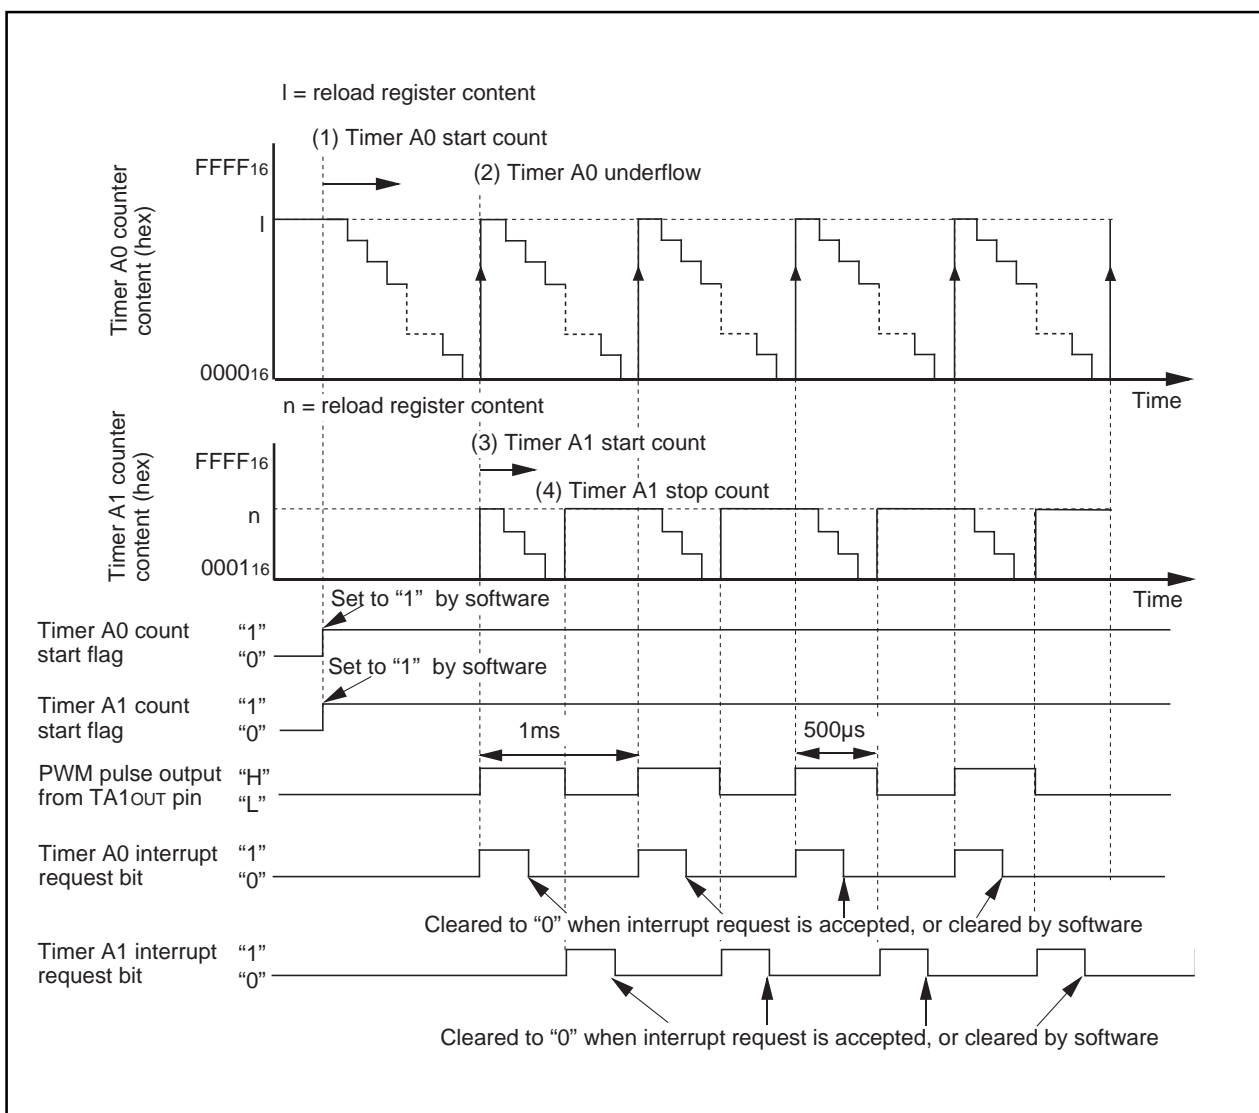
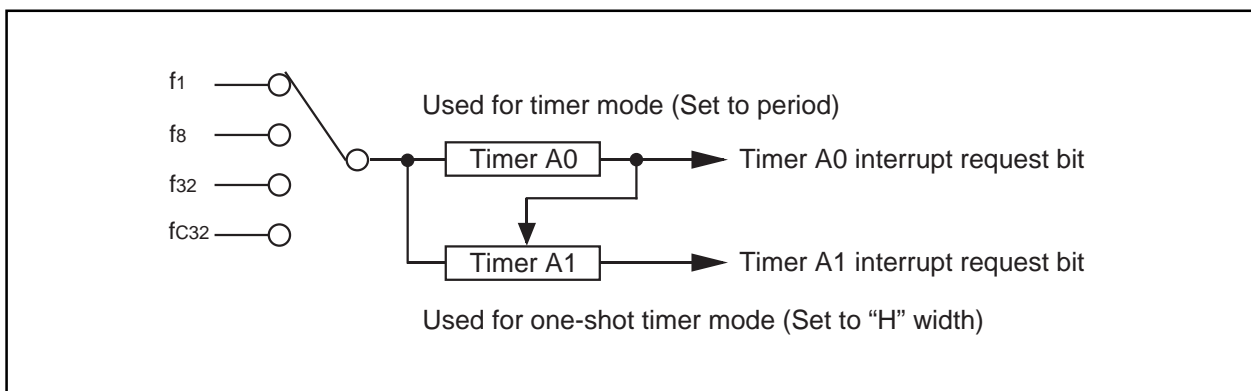
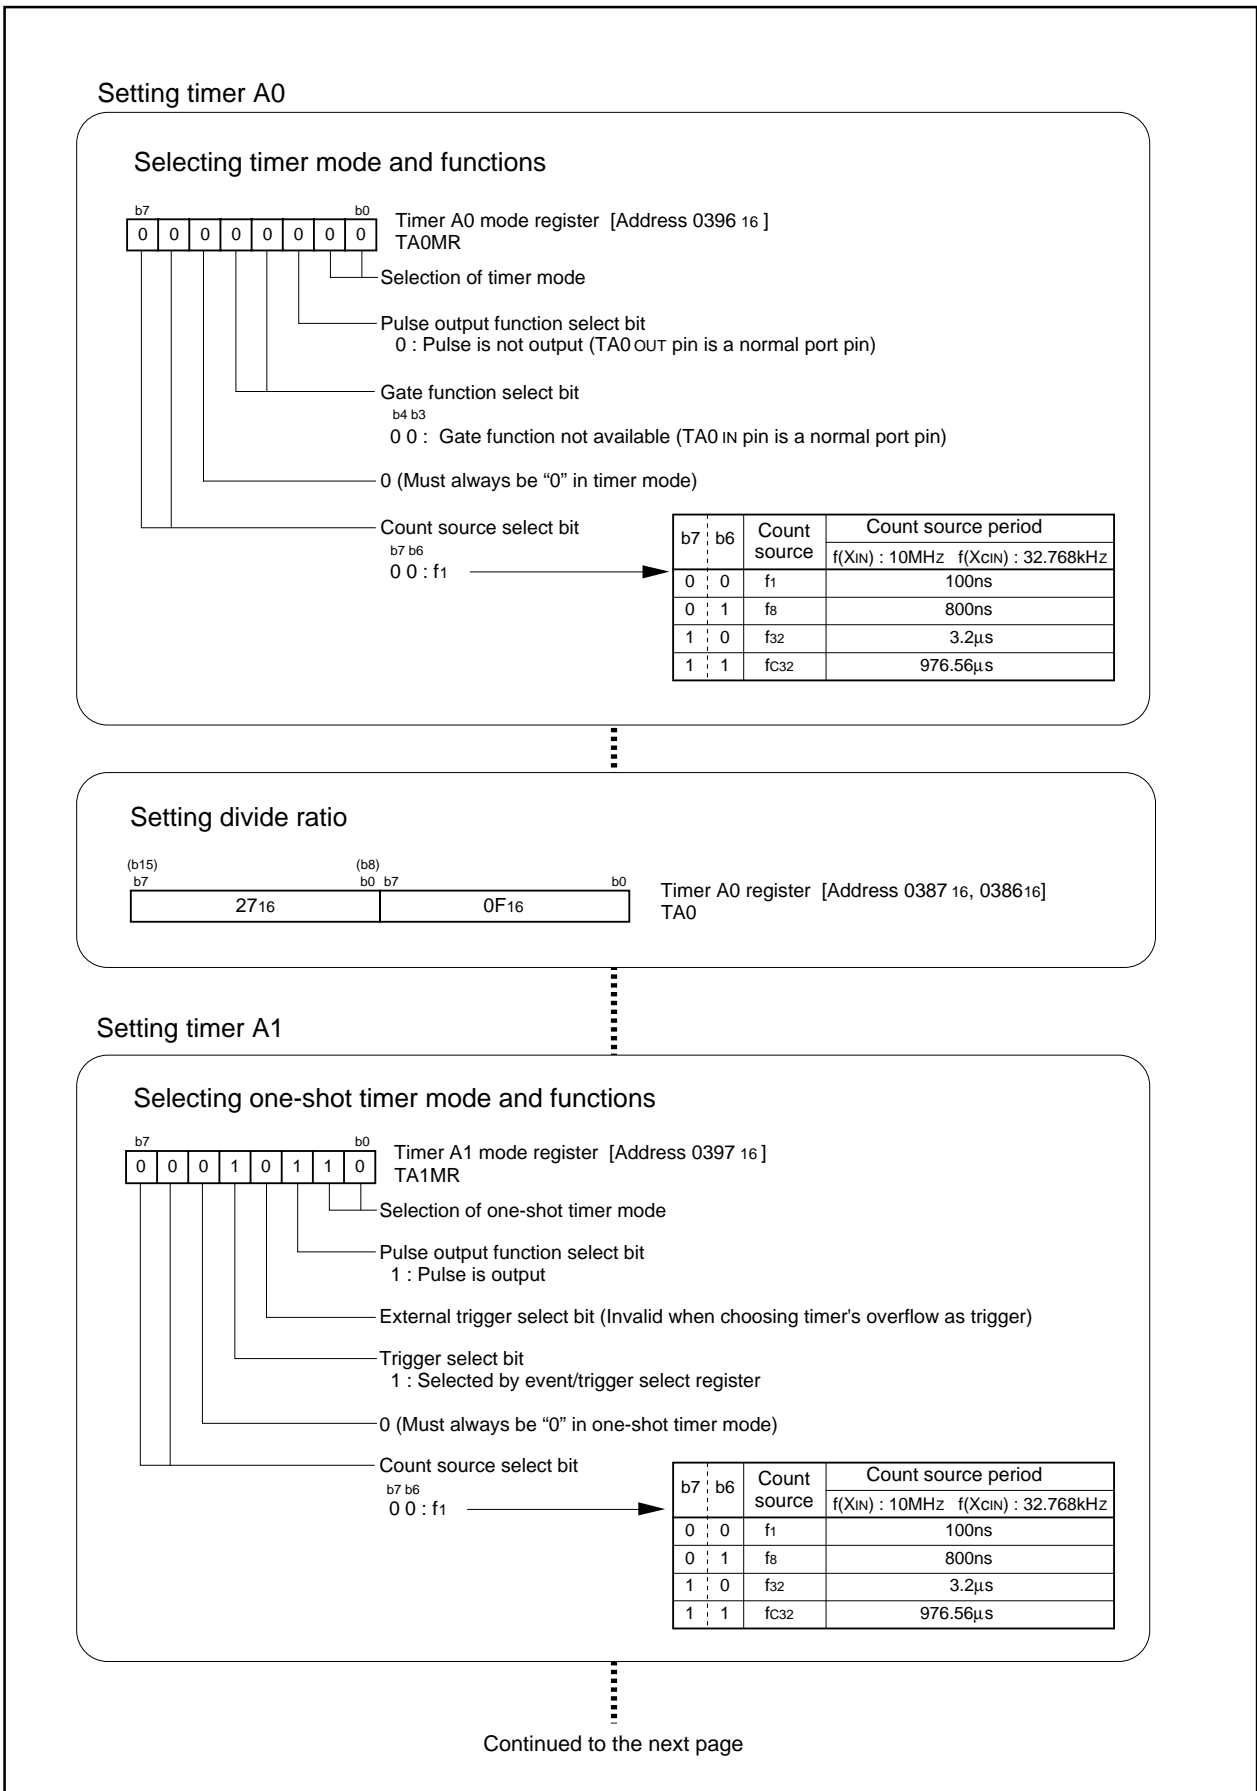

Figure 3.2.1. Operation timing of variable-period variable-duty PWM output
Figure 3.2.2. Connection diagram of variable-period variable-duty PWM output
Figure 3.2.3. Set-up procedure of variable-period variable-duty PWM output (1)
**Overview** In this process, Timer A0 and A1 are used to generate variable-period, variable-duty PWM output. Figure 3.2.1 shows the operation timing, Figure 3.2.2 shows the connection diagram, and Figures 3.2.3 and 3.2.4 show the set-up procedure.